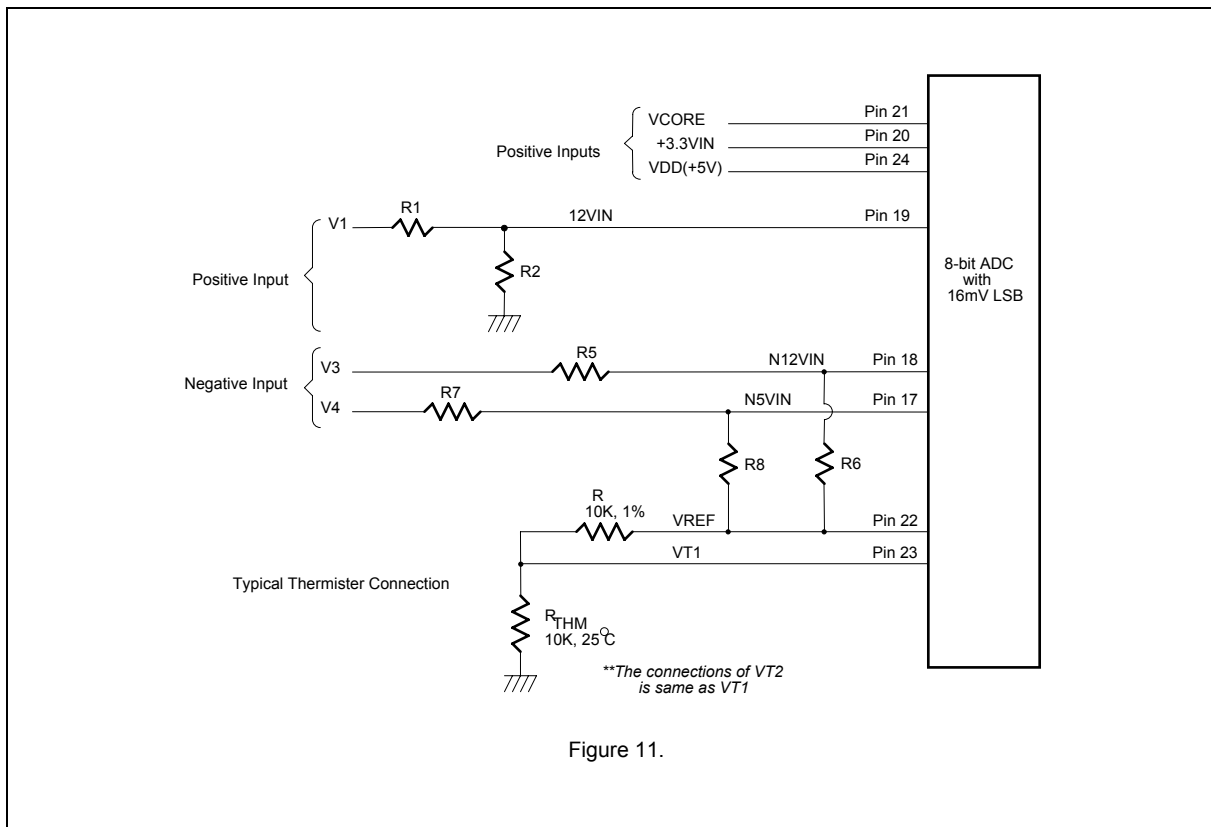

Figure 11.
The maximum input voltage of the analog pin is 4.096V because the 8-bit ADC has a 16mv LSB. Really, the application of the PC monitoring would most often be connected to power suppliers. The CPU V-core voltage, +3.3V and battery voltage can directly connected to these analog inputs. The 5VSB and +12V inputs should be reduced a factor with external resistors so as to obtain the input range. As Figure 11 shows.
The negative voltage should be connected two series resistors and a positive voltage VREF (is equal to 3.6V). In the Figure 11, the voltage V3 and V4 are two negative voltages which they are -12V and -5V respectively. The voltage V3 is connected to two serial resistors then is connected to another terminal VREF which is positive voltage. So the voltage node N12VIN can obtain a positive voltage if the scales of the two serial resistors are carefully selected. It is recommended from Winbond that the scale of two serial resistors are R5=232K ohms and R6=56K ohm. The input voltage of node -12VIN can be calculated by following equation.
W83783S can connect three thermistors to measure three different environmental temperatures. The specification of thermistor should be considered to (1) β value is 3435K, (2) resistor value is 10K ohms at 25°C. In the Figure 11, the themistor is connected by a serial resistor with 10K Ohms, and then connect to VREF (Pin 37).